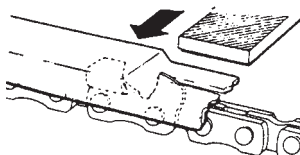

Fig. 38
- 3) Place depth gauge tool on cutter. If depth gauge projects, file it level with the top of the tool. Always file from the inside of the chain toward an outside cutter. (Fig. 38)